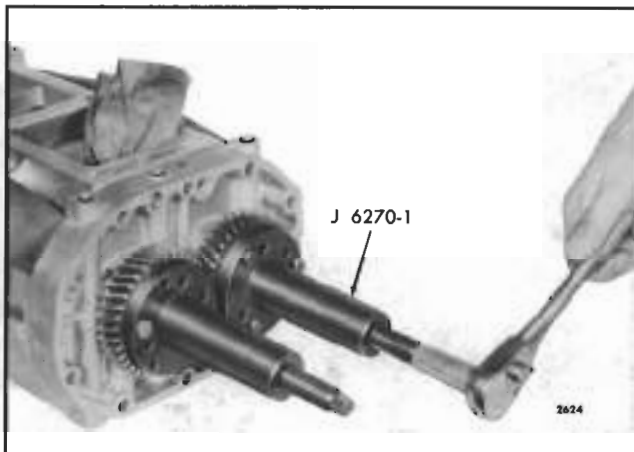

Fig. 4 - Removing Blower Gears
2. Remove the timing gears with pullers J 6270-1 (Fig. 4). Both gears must be pulled at the same time as follows:
b. Turn the two puller screws uniformly clockwise and withdraw the gears from the rotor shafts as shown in Fig. 4.